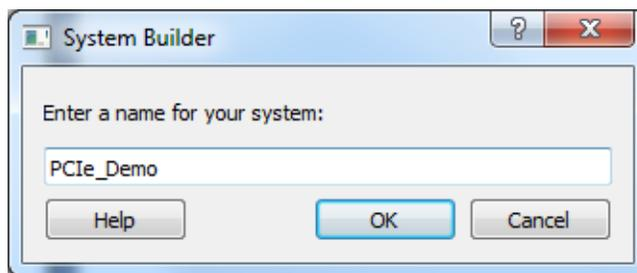

Figure 7 • System Builder Dialog Box
- Click **Finish** and enter **PCIe_Demo** as the name of the system in the **System Builder** dialog box as shown in **Figure 7**.